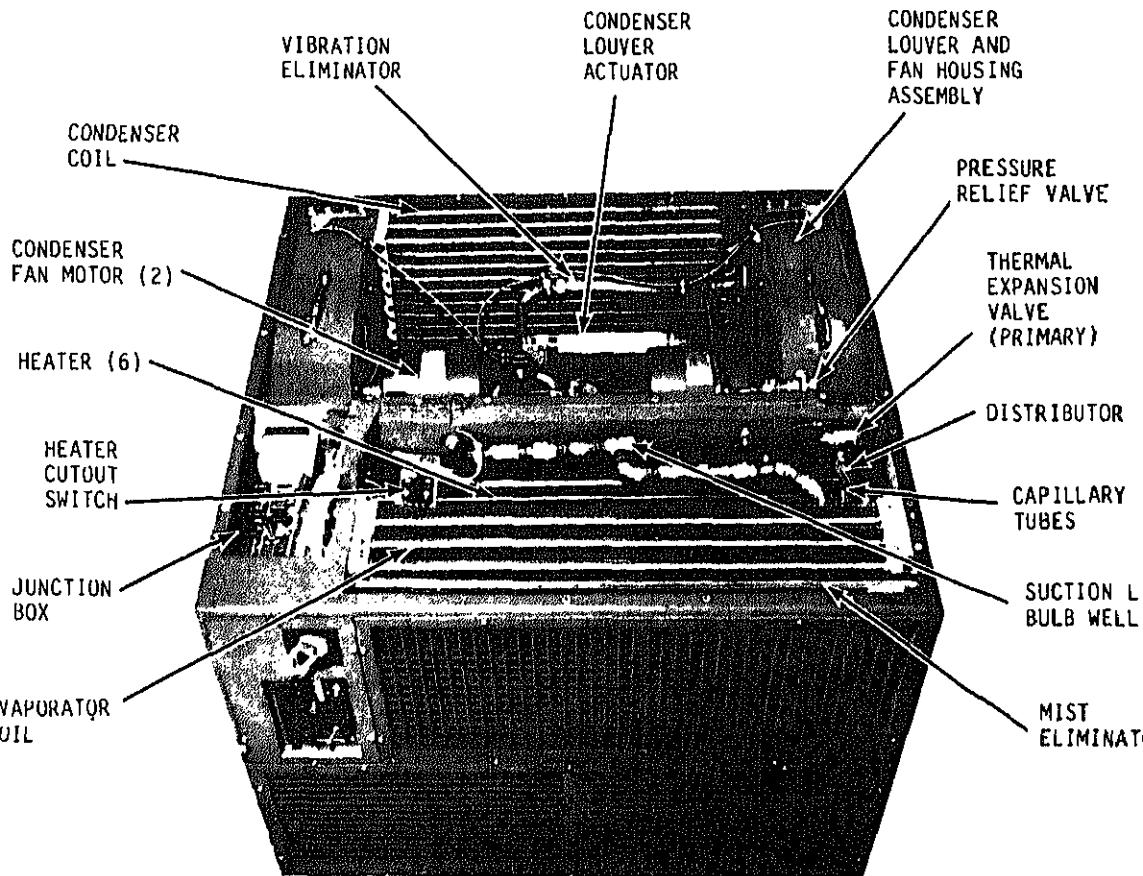

Figure 1-3. Air conditioner top view, top covers removed
a. Evaporator Section. The evaporator section (fig. 1-3), located in front of the air conditioner, contains intake and discharge air louvers, air filter, mist eliminator, evaporator coil, evaporator motor and fans, heat elements, heater thermal protector, many expansion valve, condensate drain
ion (fig. 1-3) located in the rear